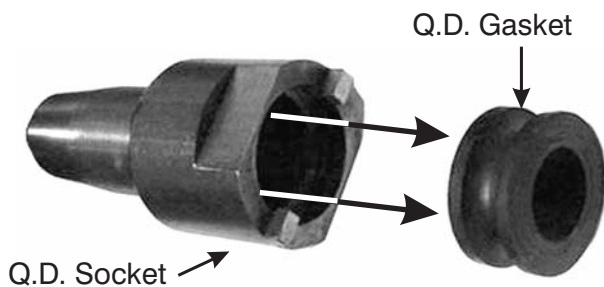

Figure 11-7. Remove Q.D. Gasket.
2. Use a screw driver or needlenose pliers to pry the Gasket (16) from the Socket. Discard the gasket. Refer to Figure 11-7.
3. Separate the Q.D. Plug (15) from the Whip Hose (13) by threading the Q.D.